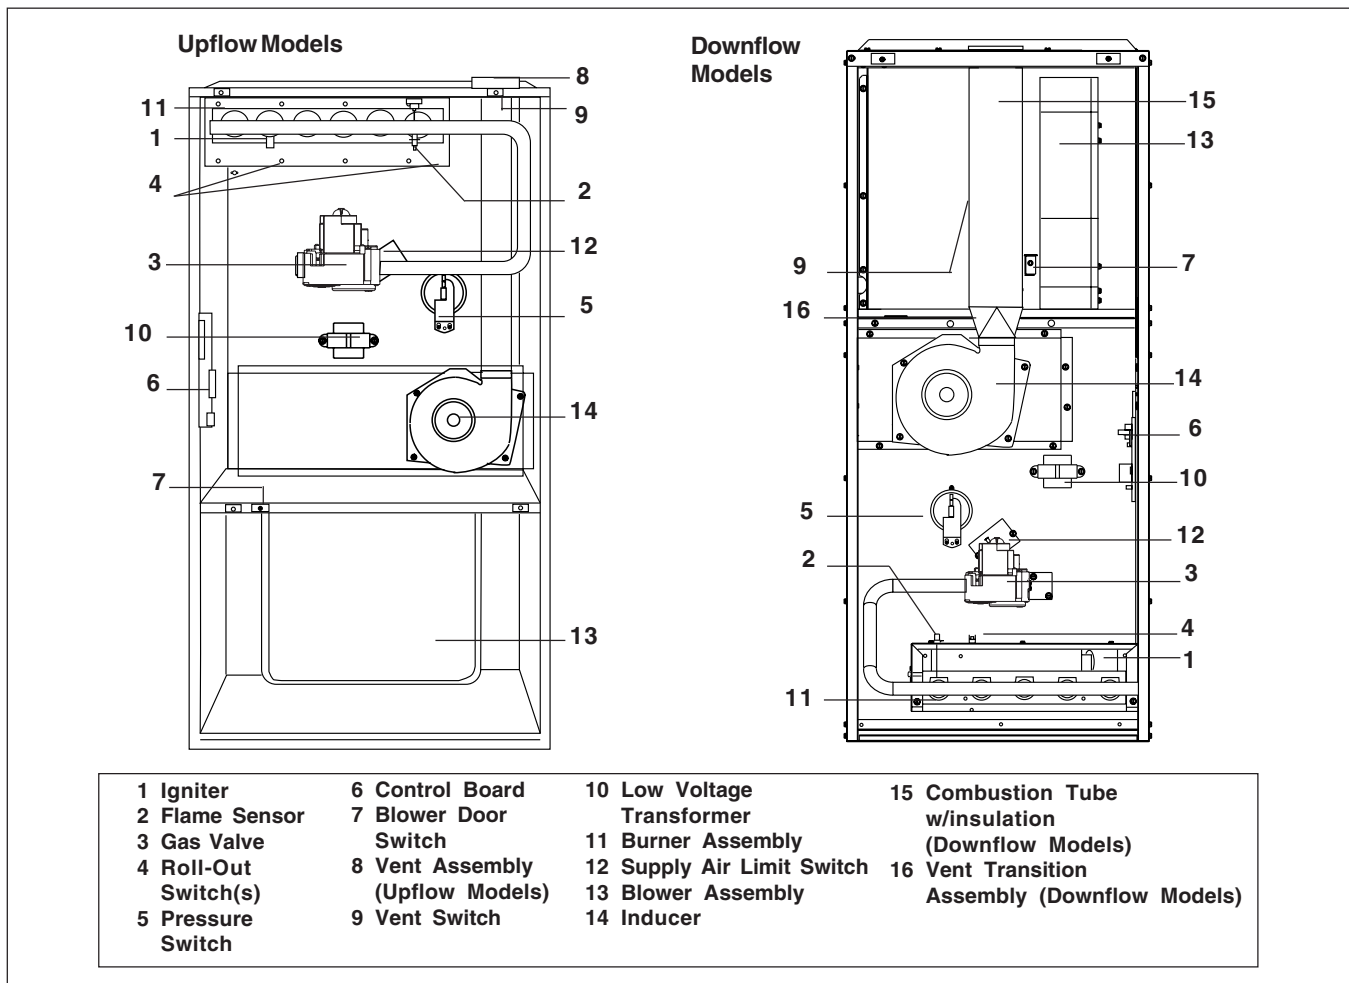

Figure 29. Location of Major Components
Figure 29 shows the location of each of the functional components described below. Also, refer to the Sequence of Operation Section of this manual. If any component of the furnace must be replaced, use only factory authorized replacement parts. See the Replacement Parts List for the factory authorized replacement for each component.
If the flue passages must be cleaned, follow the steps below. See Figure 29 for component location and identification.
If the furnace locks out after 5 attempts for ignition, it will try again every hour if a call for heat remains. If the inducer and circulating air blowers are operating, and items 1 through 8 have been checked, press the red reset button on the vent safety switch. (See Figure 29.) If the furnace operates after depressing the reset button, contact a qualified serviceman to identify and repair the problem.
If the furnace continues to not operate, depress the red reset buttons on the flame rollout switches. (See Figure 29.) If the furnace operates after depressing the reset buttons, contact a qualified servicemen to identify and repair the problem.